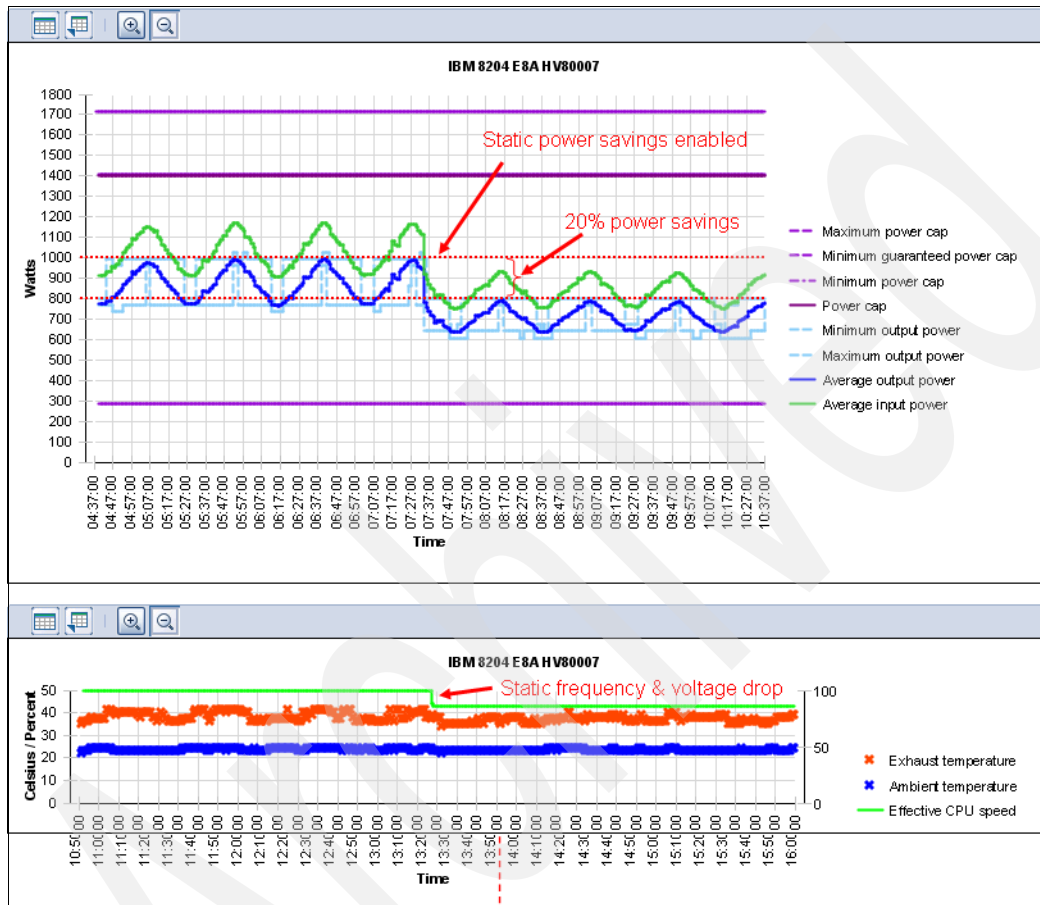

Figure 7-16 Static power savings for example 1
This example sets static power savings on a system and observes the results. Figure 7-16 shows that power capping and power savings are initially disabled on the system.
The workload shows a cyclical behavior, with output power (DC) varying between approximately 750 watts when idle and 1,000 watts under full load. Shortly after 07:30:00, an administrator enables static power savings mode. The system firmware immediately lowers the processor frequency and voltage to their static low power values, resulting in immediate and significant power savings over the (default) high performance mode. The workload continues to run, however, until peak performance is reduced because the processor is now running at a lower frequency. As shown in Figure 7-16, the static power savings setting results in approximately 20% power savings.